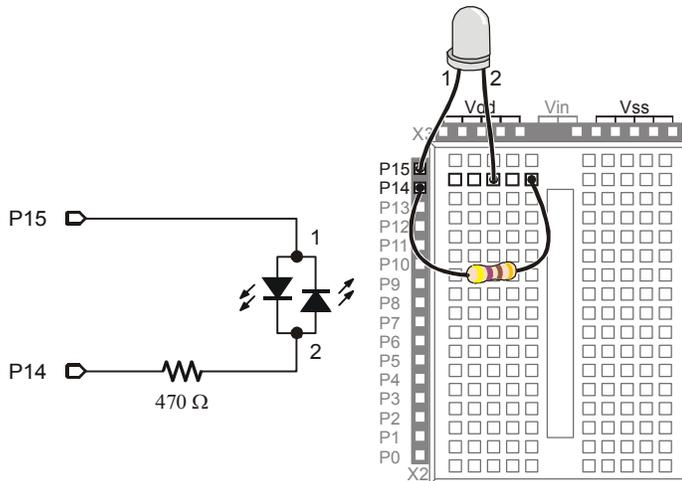

Figure 2-20
Controlling a bi-color LED with the BASIC Stamp requires two I/O pins. After you have manually verified that the bi-color LED works using the manual test, you can connect the circuit to the BASIC Stamp as shown in Figure 2-20.
- √ Connect the bi-color LED circuit to the BASIC Stamp as shown in Figure 2-20.